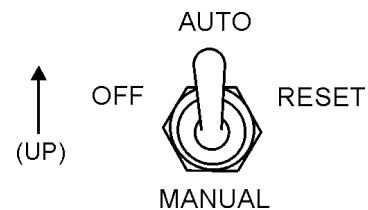

Figure 50. Off/Manual Auto Switch (AUTO)
4. Place the Off/Manual/Auto switch (Figure 50) in the **AUTO** position (up).